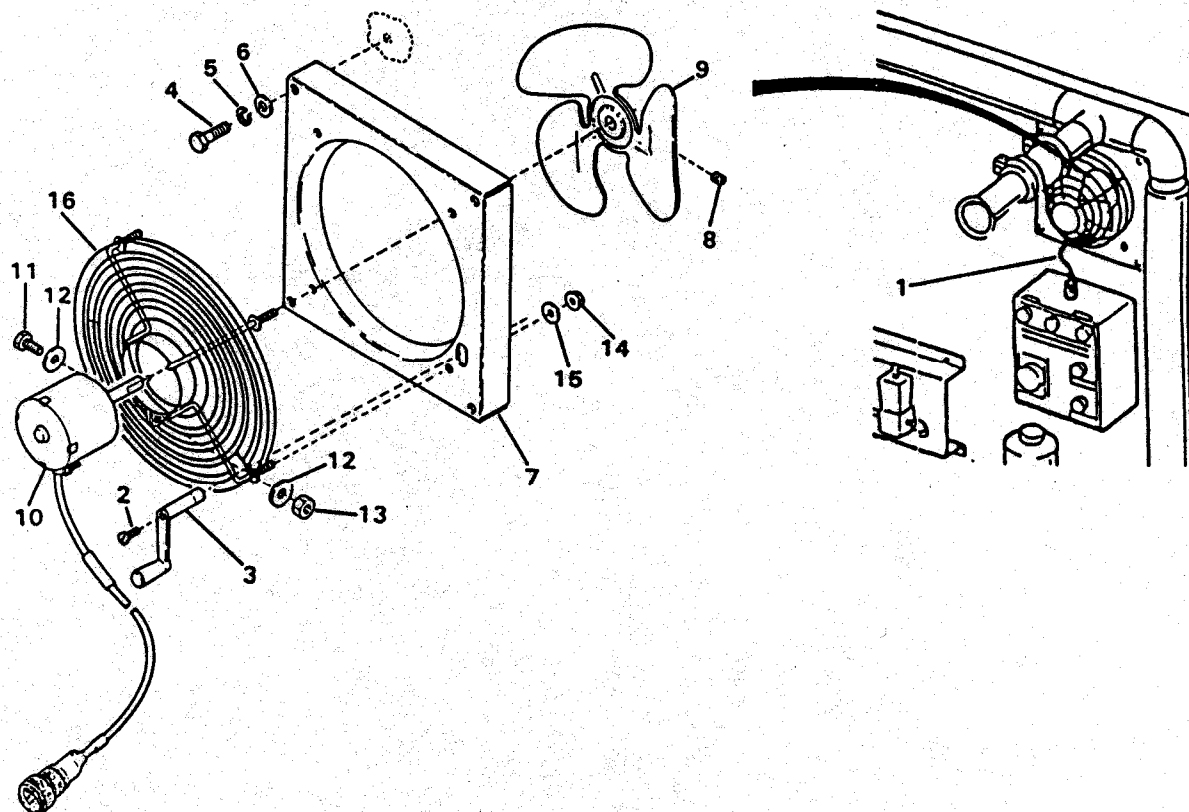

Figure 4-79.1. Vent Fan
(Figure 4-79.1).
a. Refer to Figure 4-79.1 and remove the vent fan as follows:
- (1) Turn the fan switch on switch panel No. 2 to the OFF position.
- (2) Disconnect cable (1) at switch panel No. 2.
- (3) Remove screw (2) and handle (3).
(4) Remove four capscrews (4), lockwashers (5) and washers (6) and remove the fan assembly (7) from the ROWPU wall as a unit.
- a. Loosen setscrew (8) and remove blade assembly (9) from motor (10) shaft.
- b. Remove capscrew (11), two washers (12), and locknut (13) and remove motor (10).
- c. Remove four locknuts (14) and washers (15) and remove fan guard (16).
- a. Replace blade assembly (9), if damaged.